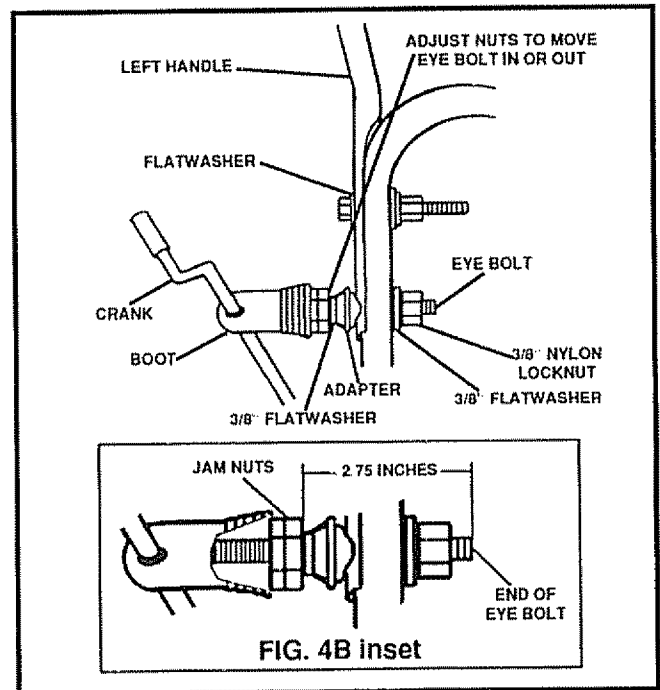

FIG. 4B
- Remove the 3/8" nylon locknut and flatwasher from the eye bolt assembly (on the chute crank assembly). Check to make sure the two 3/8" jam nuts are tight. The jam nuts should be 2.75 inches from the end of the eye bolt (Fig. 4B inset).
- Install eye bolt through lower hole on the left hand side of the handle (See Fig. 4B).
- Install the 3/8" flatwasher and the 3/8" nylon locknut loosely on the eye bolt as shown in Fig. 4B.